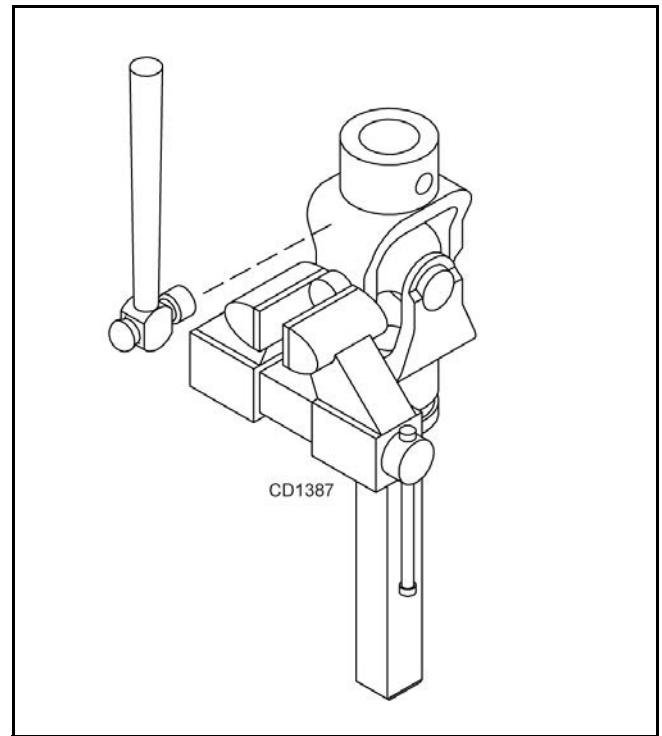

Figure 20
3. Clamp cup in vise as shown in Figure 20 and tap on yoke to completely remove cup from yoke. Repeat Step 2 and Step 3 for opposite cup.